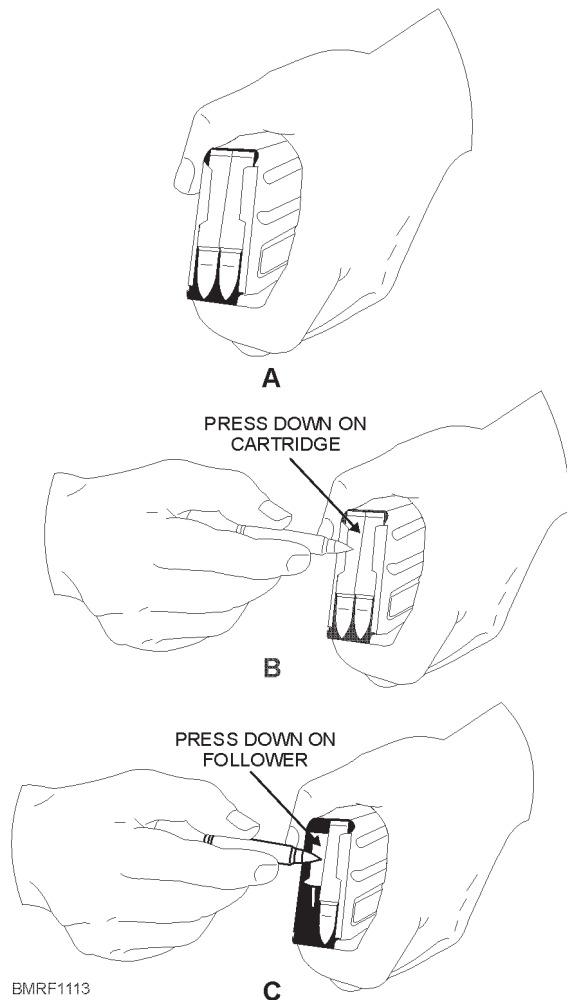

Figure 11-13.—Unloading the magazine with the nose of a cartridge.
1. Hold the magazine in your left hand with the open end away from your body and with the nose of the cartridge down (fig. 11-13, view A).
2. Depress the center of the second round in the magazine using the nose of the cartridge, allowing the first round to drop out of the magazine (fig. 11-13, view B). Repeat this procedure until you remove all the rounds from the magazine except the last one.
3. Use the nose of the cartridge to depress the follower to remove the last round, allowing the last round to drop out of the magazine (fig. 11-13, view C).